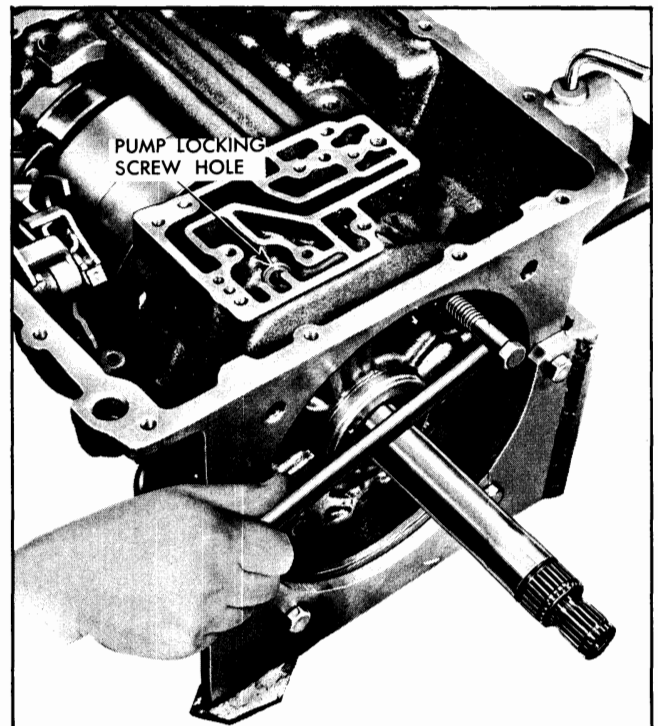

Fig. 7D-159 Rotating Pump and Case Center Support
18. Slide governor drive gear on output shaft, locating slot in gear over key (Fig. 7D-156).